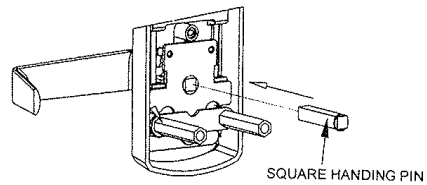

Fig. 2
2. Align the handle for the desired door handing then insert the square handling pin into the hub. (See Fig. 2.)